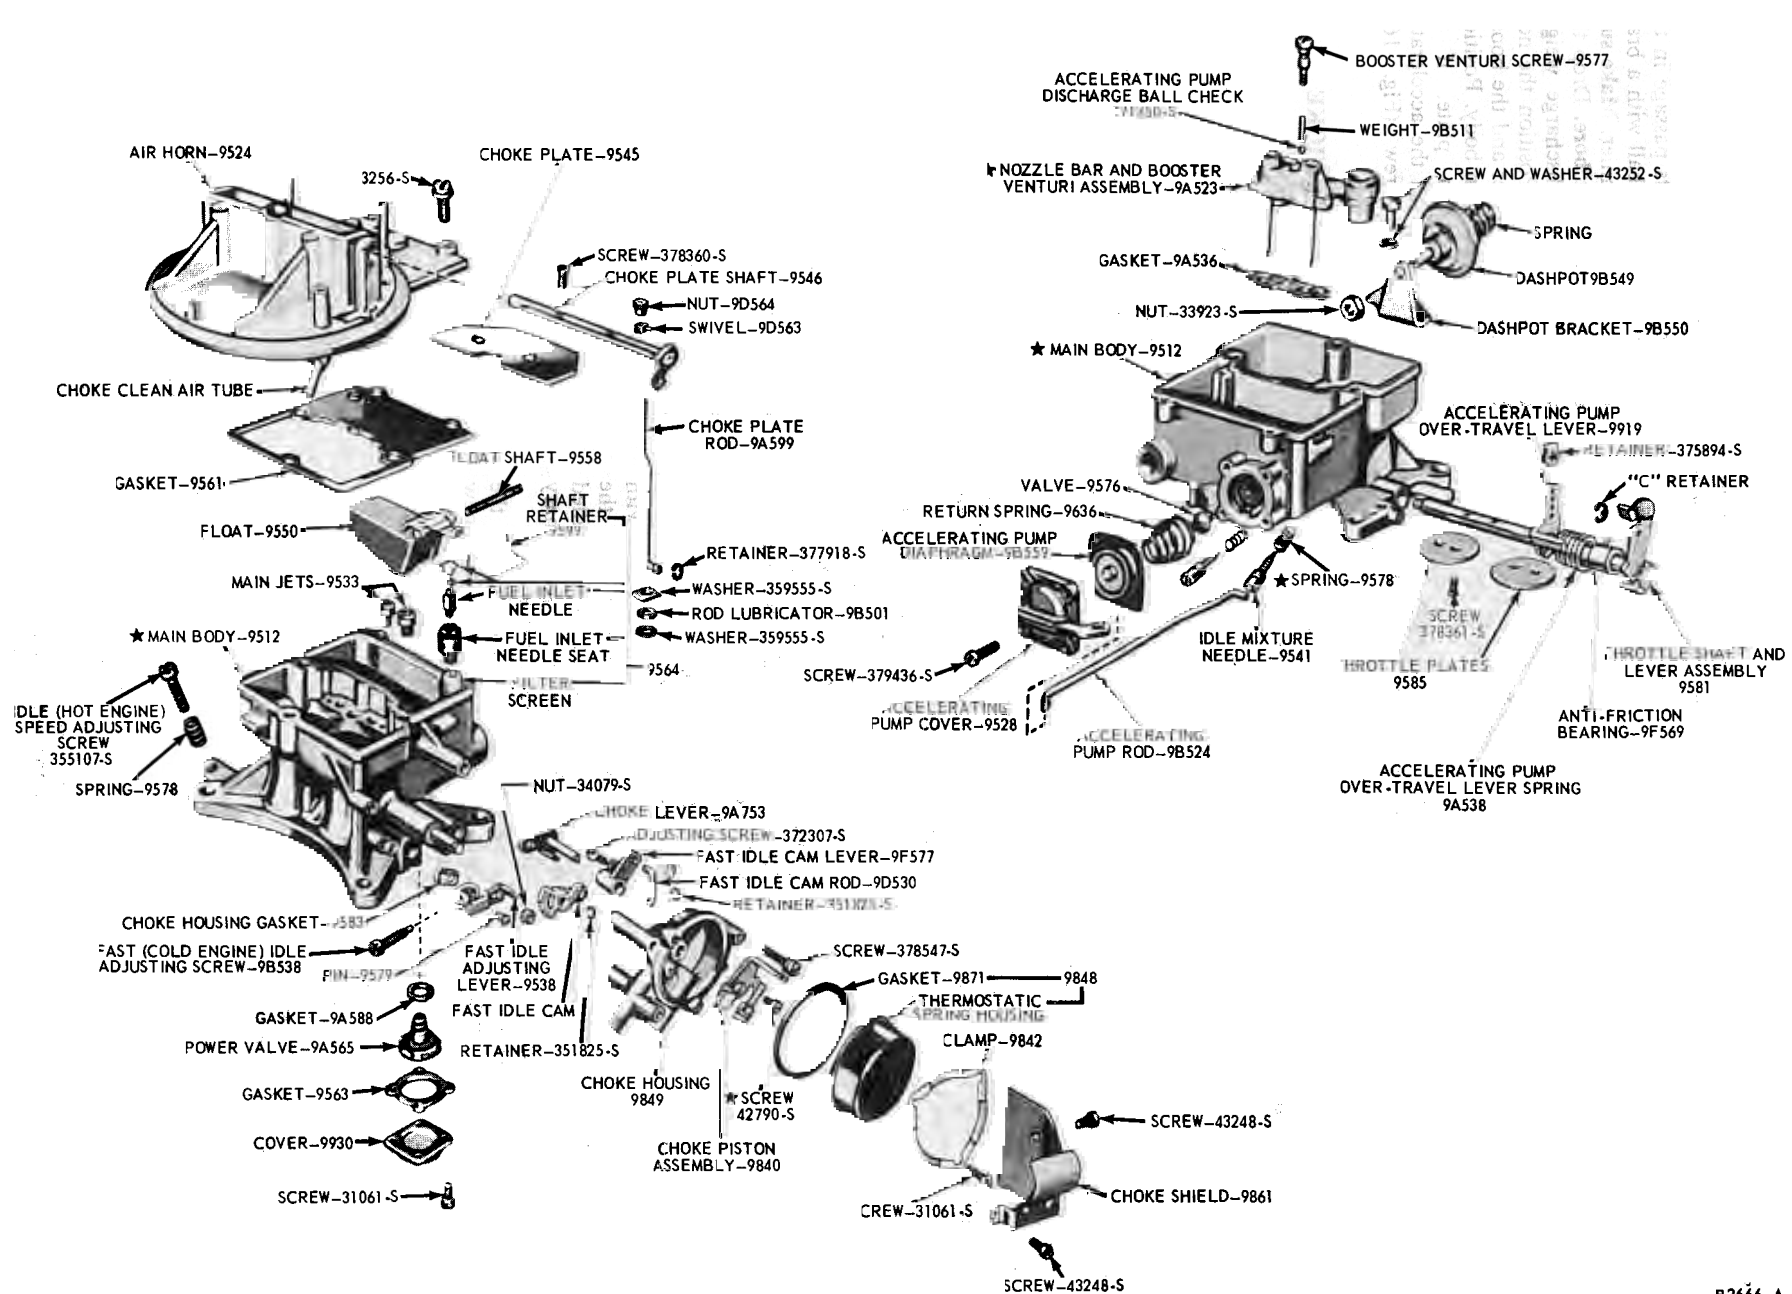

FIG. 21—Disassembled Carburetor
Refer to Fig. 21 for parts identification.
The carburetor assembly is shown in Fig. 21.
11. Install the idle mixture adjusting screws (needles) and springs (Fig. 21). Turn the needles in gently with the fingers until they just touch the seat, then back them off the specified (Part 10-8) turns for a preliminary idle fuel mixture adjustment.